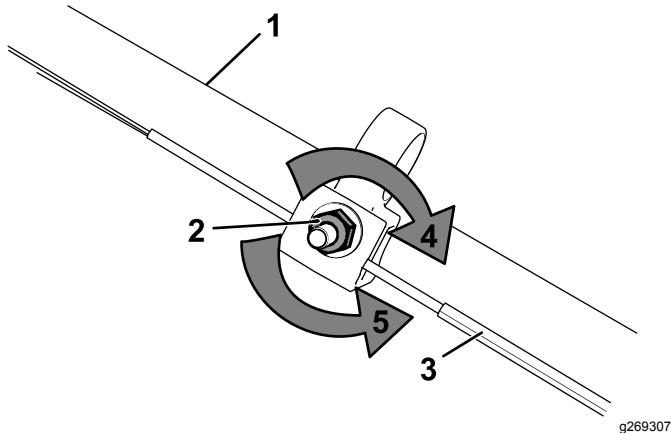

Figure 29
1. Turn the adjustment nut counterclockwise to loosen the cable adjustment (Figure 29).
2. Adjust the tension on the cable (Figure 29) by pulling it back or pushing it forward and holding that position.